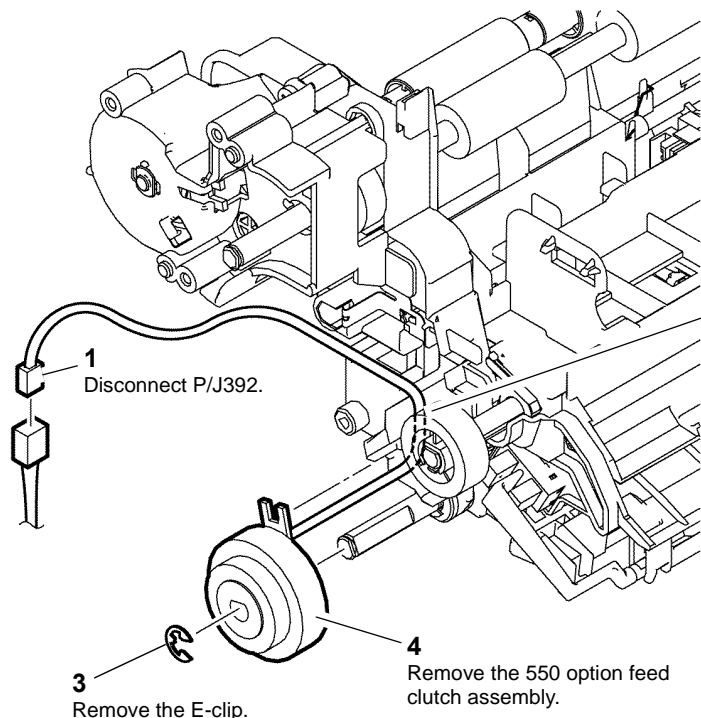

Figure 1 550 Option feed clutch assembly
2. Remove the 550 option feed clutch assembly, Figure 1.